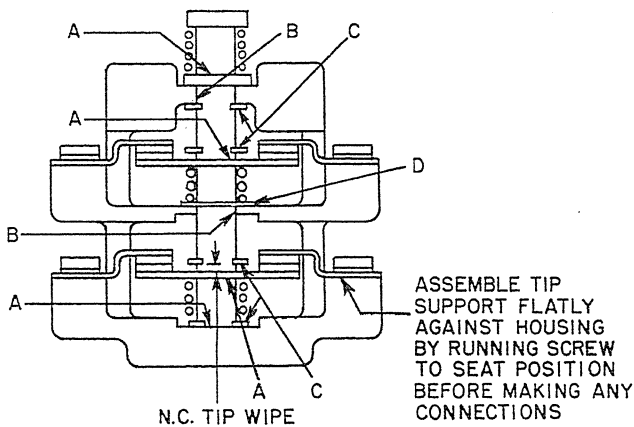
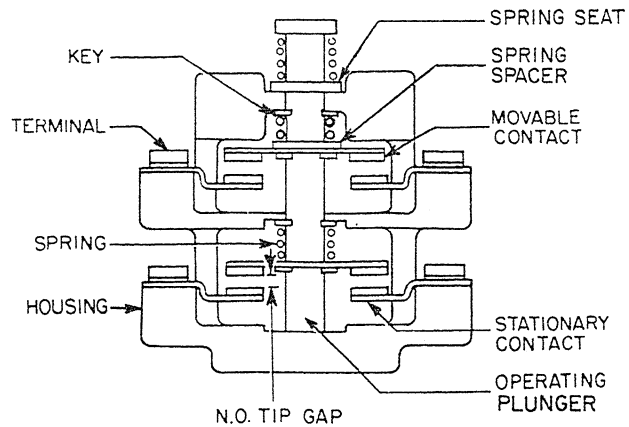
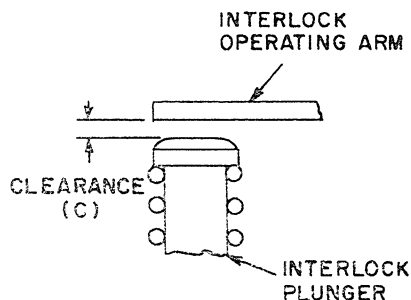

Fig. 5. Interlock block with normally closed contacts in unoperated position
Fig. 6. Interlock block with normally open contacts in unoperated position
Fig. 8. Contactor in its de-energized position
These contactors use an interlock block having internal parts which can be rearranged to give different contact arrangements. Should this be necessary the parts should be reassembled in accordance with Figs. 5, 6, or 7.
Spring ends must not protrude into holes (A), slots (B), or keys (C), which serve as guides for the operating plunger. See Figs. 5 and 6.
Interlock blocks with two normally closed circuits require a spring spacer (D) as shown in Fig. 5 to assure that the center spring is properly in place. Because of the circuit rearrangement feature, a spring spacer is also supplied with other two-circuit interlock blocks, as shown in Figs. 6 and 7.
The interlock block should be positioned on its bracket so that with the contactor in its energized position, the interlock plunger (Fig. 6) should not bottom, and with the contactor in its de-energized position, there should be some clearance (C) between the interlock plunger and the interlock operating arm (Fig. 8).
Tip gaps and wiper (see Figs. 5, 6, and 7), when new, should be as shown in Table III.
Replace contact tips when the wipe (Figs. 5 and 7) as specified in Table III decreases to one-half of the minimum specified.
To replace removable contacts on interlock blocks illustrated in Figs. 5, 6, and 7, lift the spring seat with the thumb and forefinger and remove the operating plunger which supports the movable contacts. Snap off the U-shaped keys and the movable contacts can be removed and replaced. Care should be taken not to lose any parts or pieces during this operation.